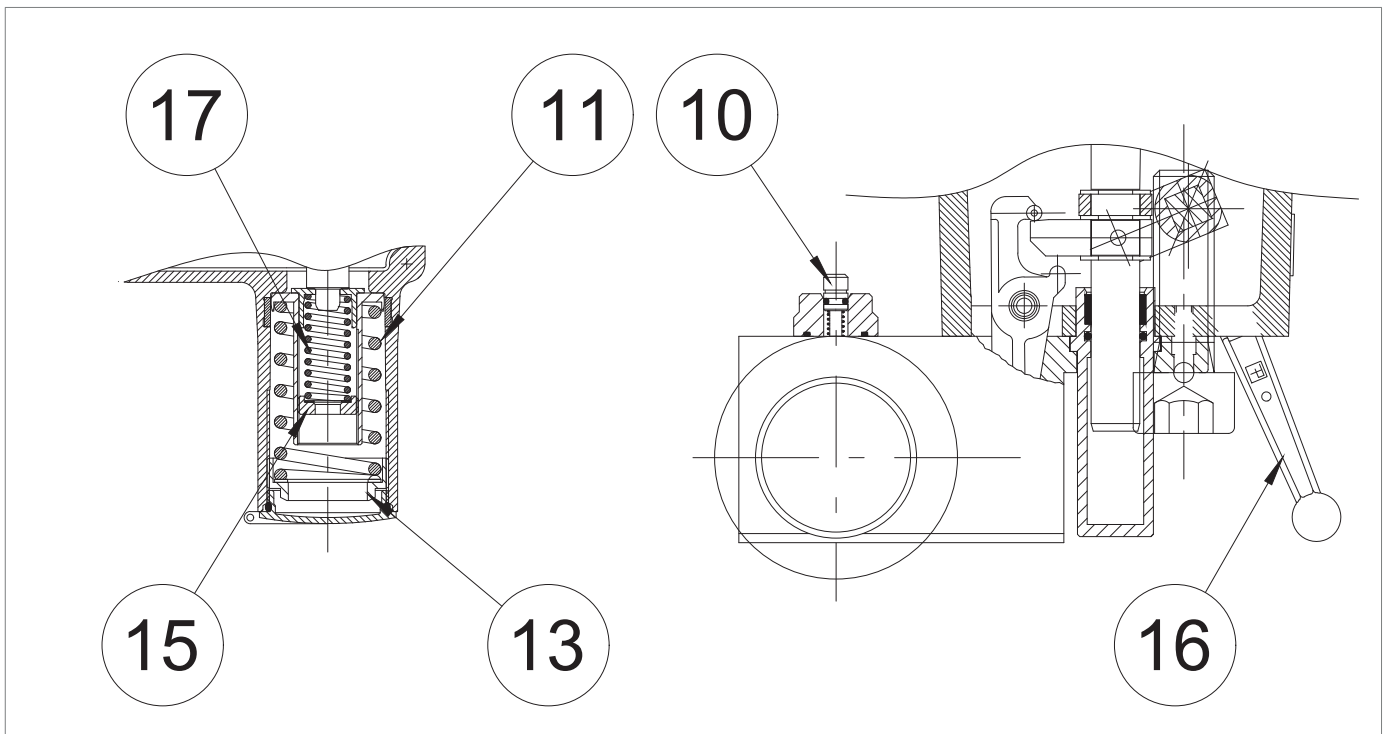

Fig. 8.34. Pressure switches calibration Models 102M/102MH - 105M/105MH
2	<p>Check that the slam-shut valve (9) is in the closed position.</p> <p>! NOTICE!</p> <p>If the slam-shut valve (9) is in the open position, close it using the manual button (Fig. 8.34, ref. 10).</p>